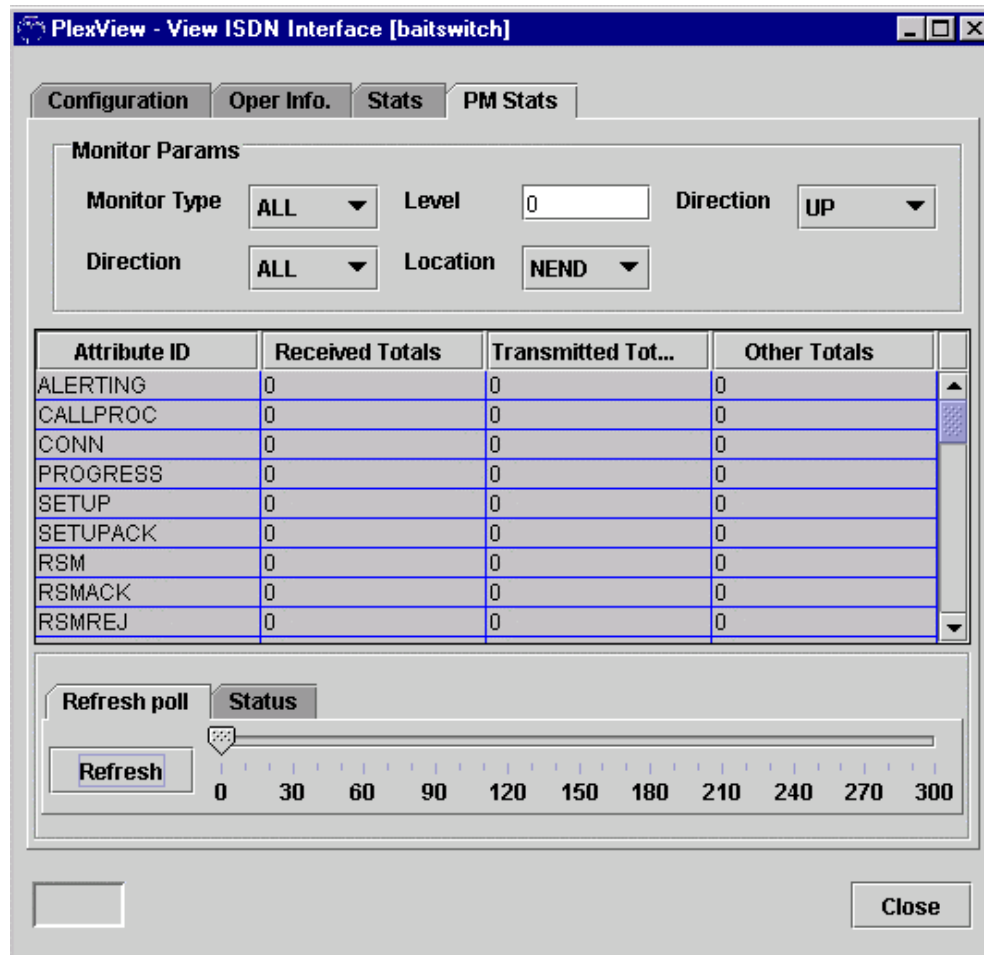

Figure 2. ISDN PM Stats
4. Double-click the switch name in the switch status panel to select it for the main panel. Double-click *ISDN* and then *Interfaces*. Right-click an interface and select *View, PM Stats* and then click *Refresh* near the bottom of the panel for the latest information. See Figure 2.